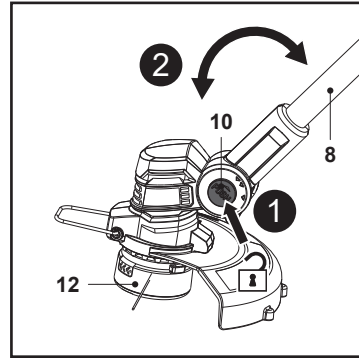

Fig. 10
1. Push the unlock button (10) and hold it in position (Fig. 10, step 1).
2. Move the lower pole (8) slightly up or downward (Fig. 10, step 2).
3. Release the unlock button (10) and keep moving the lower pole (8) until it locks in place.